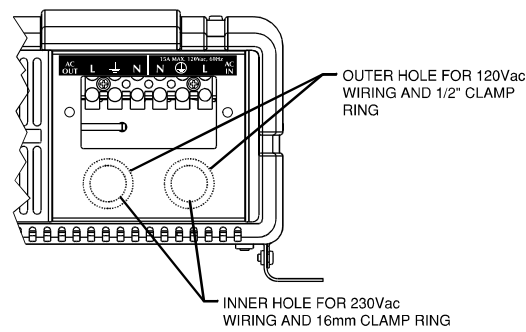

Figure 3. AC wiring terminals (hardwire versions only)
Figure 3 may be a useful reference as it illustrates the AC wiring connection terminals for Prosine Inverter models that are AC hardwire configured.
2. Remove the knockouts from the cover of the wiring compartment to create holes for your cable clamps (see Figure 3).